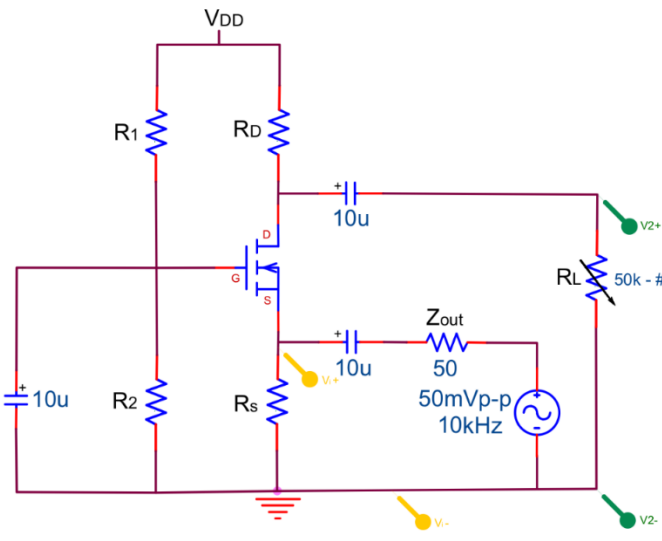

Figure 11.7
6. Remove the series resistance and reconnect the signal generator directly to the amplifier input. Remove the 50KΩ resistor from the amplifier output. Measure and record the amplifier output voltage. This is v_1 . Place decreasing resistor values, starting at 50KΩ across the amplifier output (see Figure 11.7) until the output voltage drops to approximately one half v_1 . This output voltage is v_2 . Use the following equation to calculate the output impedance of the amplifier: